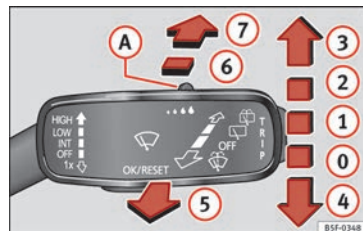

Fig. 41 Operating the windscreen wiper and rear wiper.
- ① Windscreen wipers interval wipe. Using the control » **Fig. 41 A** adjust the interval (vehicles without rain sensor), or the sensitivity of the rain sensor.
- ② **LOW** Slow wipe.
- ③ **HIGH** Continuous wipe.
- ④ **1x** Short wipe. Brief press, short clean.
- ⑤ Automatic wipe. The windscreen washer function is activated by pushing the lever forwards, and simultaneously the windscreen wipers start.
- ⑥ Interval wipe for rear window. The wiper will wipe the window approximately every six seconds.
- ⑦ The rear window wash function is activated by pressing the lever, and the rear wiper starts simultaneously.